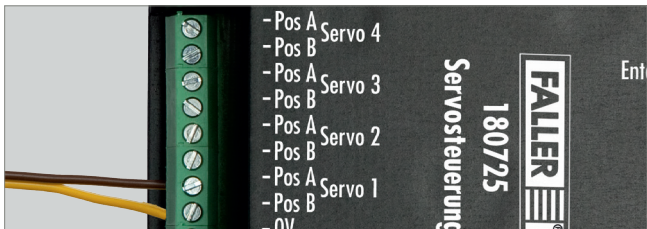

Fig. 6: Connecting push buttons
- ▶ Connect one or several push buttons to one or several of the »Pos A Servo 1« to »Pos A Servo 4« ports and »Pos B Servo 1« to »Pos B Servo 4« ports on the Servo Control, see Fig. 6.